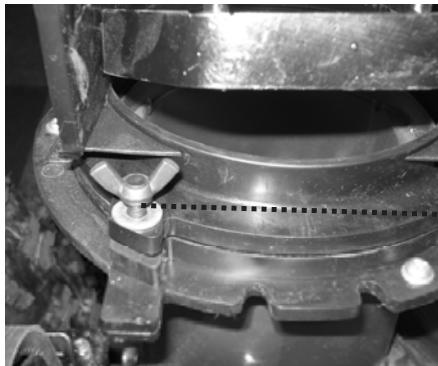

Fig.5
3. Align the hole of the discharge chute with the hole of Chute chassis, fasten the butterfly bolt and flat washer previously removed (Fig5).